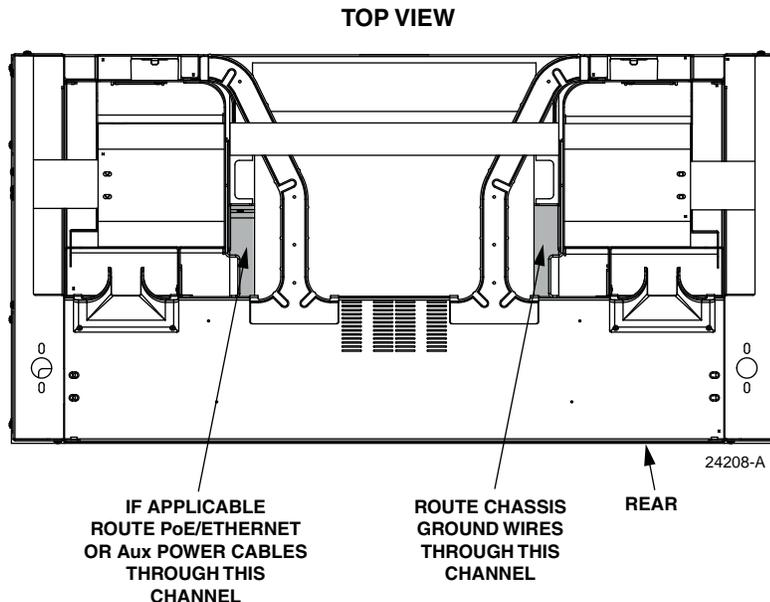

Figure 21. Ground Wire Channel
4. Each chassis ground should be routed up or down the rack through the small channel located on the left when viewed from the front, see Figure 21. Secure each chassis ground to the ground bar or office ground. See chassis installation instructions for detailed chassis grounding procedure.